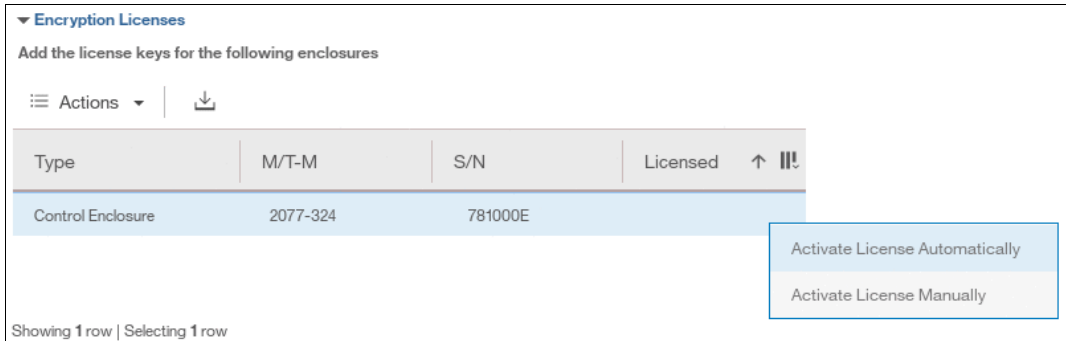

Figure 13-10 Select the node on which you want to enable the encryption
2. The Encryption Licenses window displays information about your nodes. Right click on the node on which you want to install an encryption license. This will open a context menu with two license activation options (**Activate License Automatically** and **Activate License Manually**), as shown in Figure 13-10 on page 715. Use either option to activate